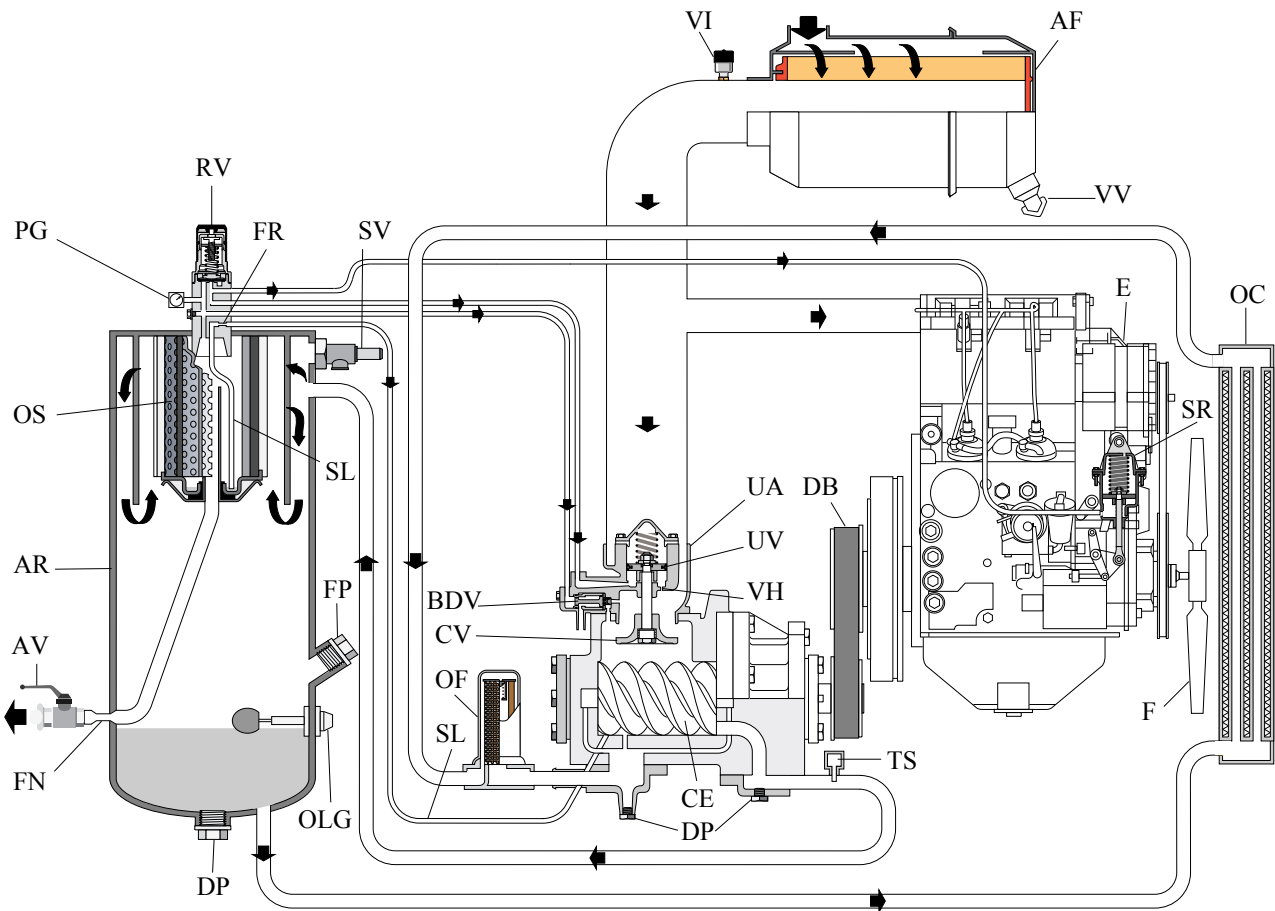

Fig. 2.3
2.5 LUFSTRØM (SE FIG. 2.3)
2.6 OLIESYSTEM (SE FIG. 2.3)
2.7 PERMANENT REGULERINGSSYSTEM (SE FIG. 2.3)